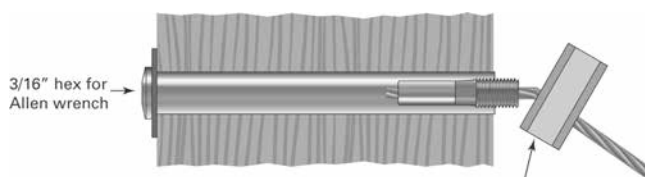

Figure 10
1. Move back to the Receiver and swaged stud end of cable and attach cable gripping pliers to the cable as close as is practical to the fittings without contacting the end post. (Figure 10)